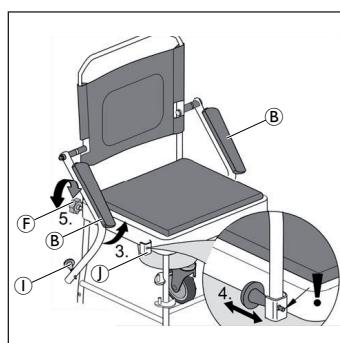

Fig. 3
3. Swivel armrests (B) on both sides upwards until the spring pin (I) latches into the hole of the lock (J) on the seat frame (Fig. 3).
4. Turn the star head screw (F) in completely (hand-tight) (Fig. 3).